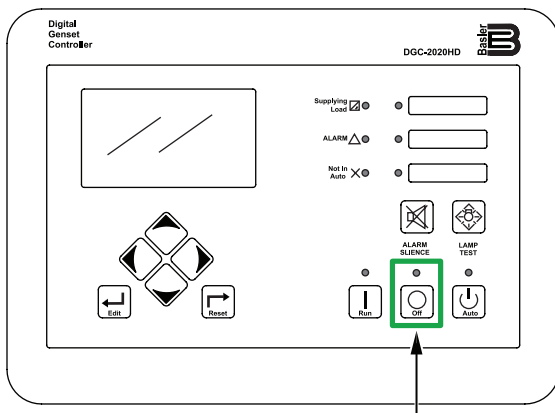

Figure 49. Digital Controller (OFF Button)
3. Press the **OFF button** on the digital controller (Figure 49) to stop the engine. The engine will stop after a 1-minute cool-down process.
Press the **OFF button** on the digital controller (Figure 49). The circuit breaker will automatically turn **OFF** and the engine will stop after a 1-minute cool-down process.
3. Press the **OFF button** on the digital controller (Figure 49).